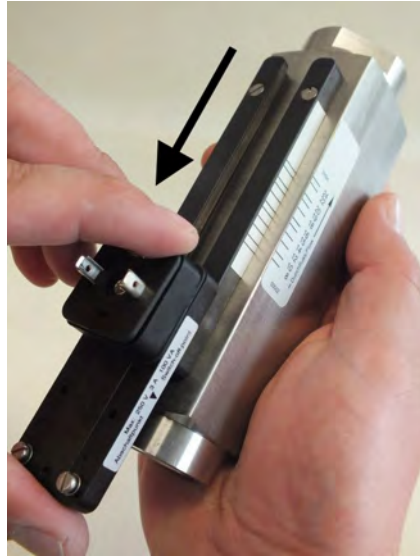

Fig. 76: Remove switch contact from guide rails
4. Remove the switch contact from the guide rails by sliding the switch contact in the direction of the arrow (Fig. 76).